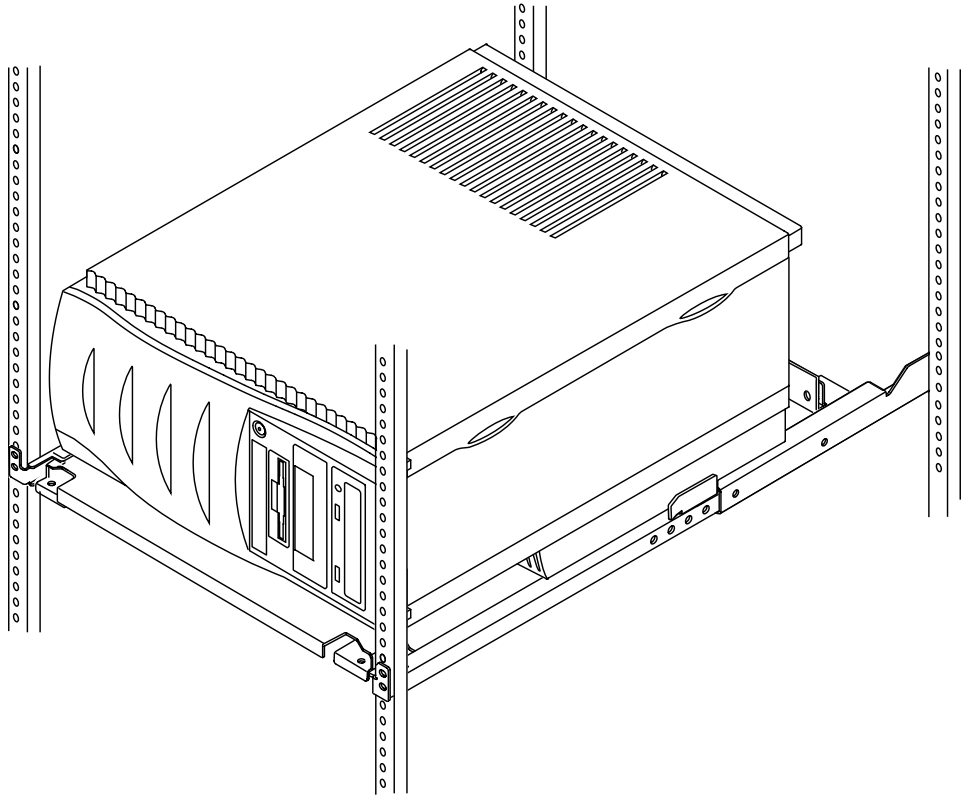

FIGURE 20 Placing the Ultra 80 System in the Rack
3. Slide the system back until it is flush with the rear flanges on the mounting tray (FIGURE 20).